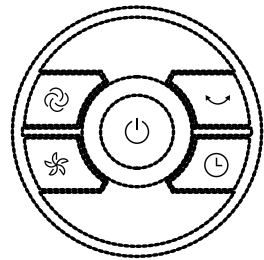

Fig.6
**II. Buttons on fan body / Panel indication (Fig.6)**